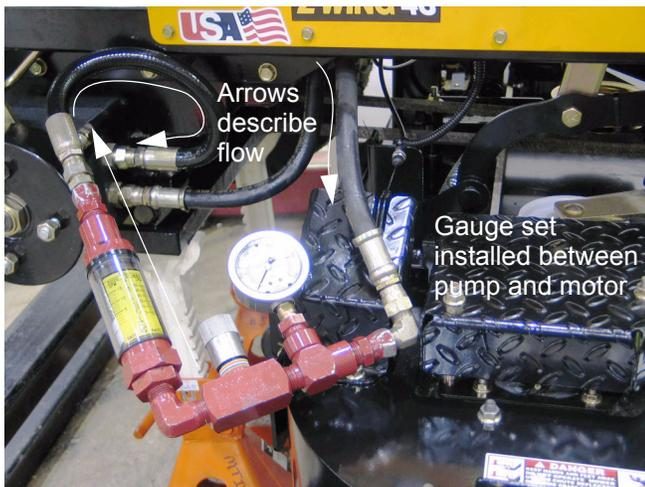

Figure 24.10
24.10. Promptly install the gauge set to minimize fluid loss. See Figure 24.10.